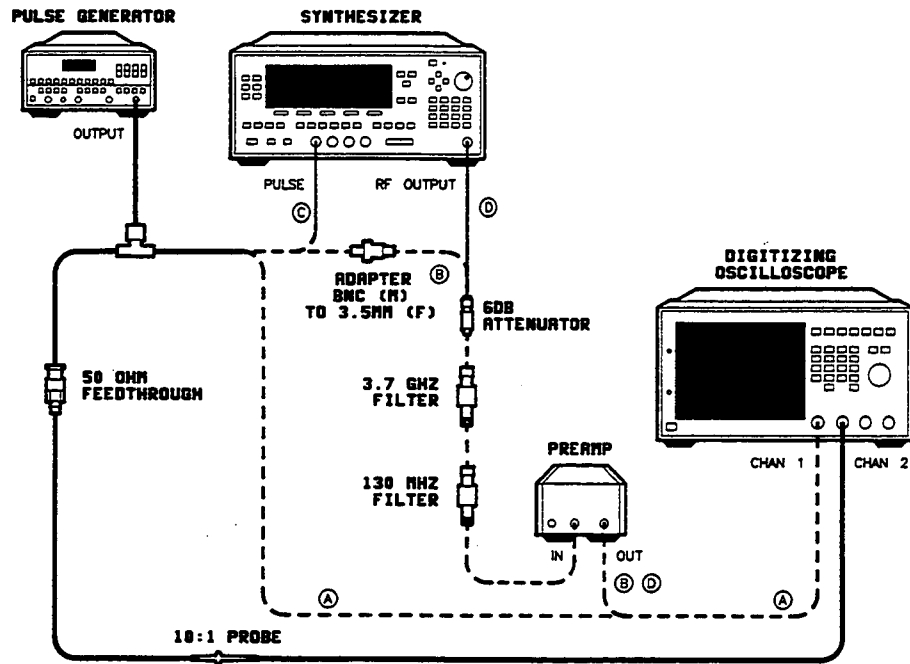

Figure 2-17. Video Feedthrough Test Setup
1. Preset all the instruments shown in figure 2-17 and let them warm up for at least one hour.
3. Connect the equipment as shown in figure 2-17 with the pulse generator connected directly to channel 1 of the oscilloscope (A).